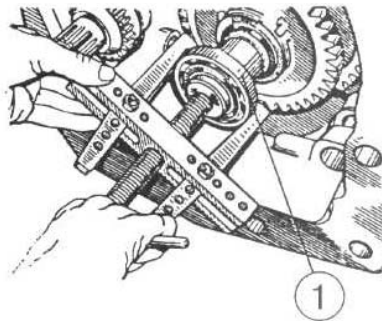

Figure 4.26
c) press bearing 1 from shaft (Figure 4.26);